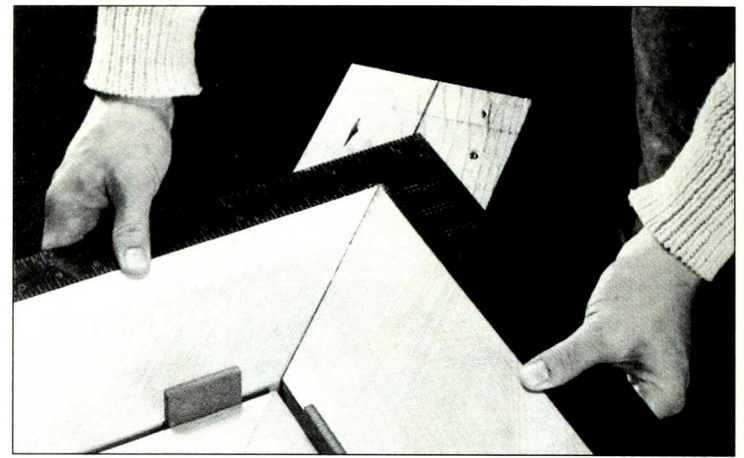

Figure 3: Check pieces for square as you assemble the top. Spacers keep a uniform gap between the boards.
- Align and screw one N piece to the spider. Use the $\frac{1}{4}$ -inch spacers as gap guides to align the remaining three N pieces on the spider. Check the pieces' position for square with a carpenter's square (Figure 3).
- The four cleats under the tabletop hold the rings flat and support the outer ring. Cut one end of all the cleats (L) to a point, making sure you maintain the length of the cleat from the point to the squared end. Drill holes for the 2-inch screws that secure the cleats to the rings. Screw the cleats onto the underside of the top. Leave room for the pedestal to slip over the spider. Turn the top over and mount it to the pedestal with the threaded rods.
- Tape two $\frac{1}{4}$ -inch spacers to each edge of the fourth ring (Q). Center and screw the outer ring pieces (R) to the cleats. Trim these ends when you cut the octagon.